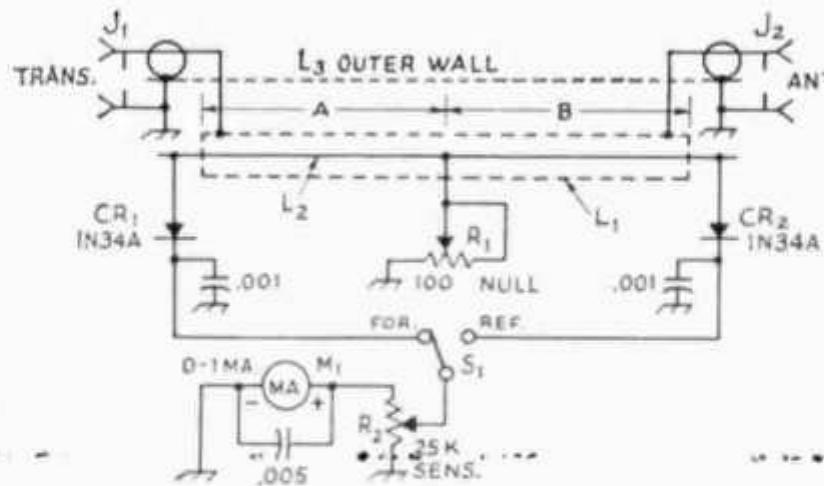

Fig. 1—Schematic diagram of the W1CER Varimatcher. Capacitors are 1000-volt disk ceramic and values are in pf.
R. f. from the transmitter is applied to the bridge at  $J_1$ , Fig. 1. The current flows along  $L_1$  and out through  $J_2$  to the load. The pickup line,  $L_2$ , is centered in  $L_1$ . Because  $L_2$  is inside  $L_1$ , and because the line current does not flow on the inner wall of  $L_1$ , coupling between the two takes place only at the ends. This arrangement offers two benefits: The reflected- and forward-power portions of the pickup line,  $L_2$ , are divorced from one another physically, resulting in better isolation between the two halves of the pickup element. This contributes to better balance in the bridge. Also, with this construction it has been found that it is unnecessary to tinker with the value of terminating resistance, regardless of the element length or shape. The termination is approximately 51 ohms for 50-ohm lines and 33 ohms for 75-ohm lines.